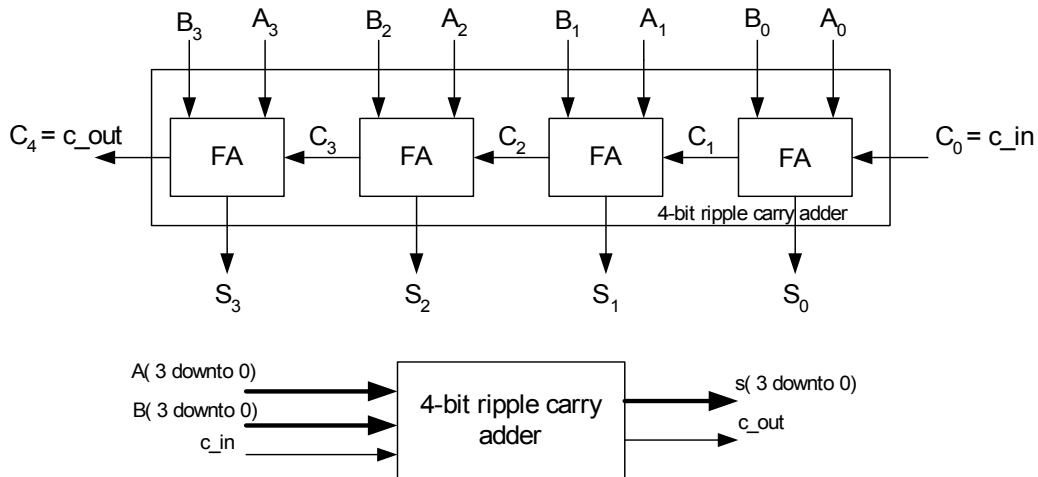
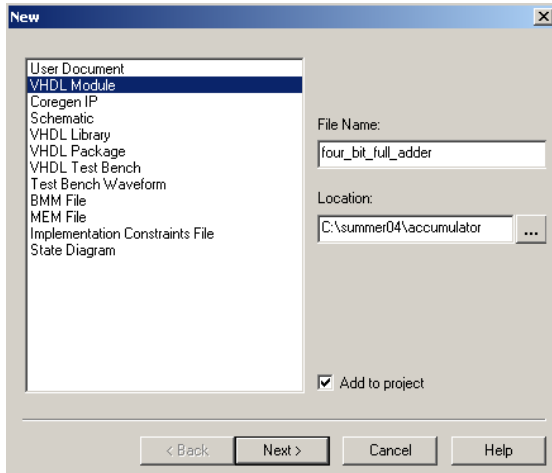
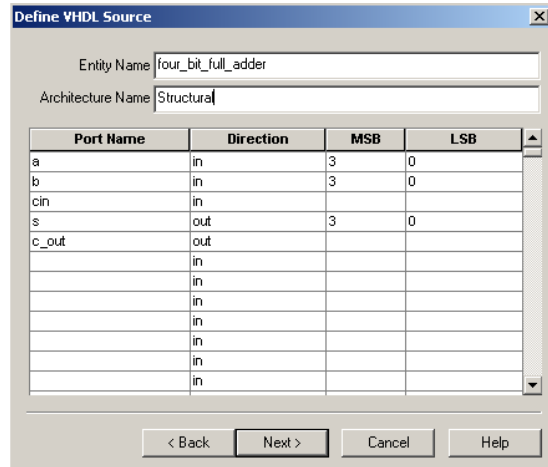

Figure 3; Block diagram of a 4-bit wide ripple carry adder.
Figure 13
Figure 14
adders. There are several ways to do so. In this lab we will follow a “ripple carry adder” approach. A full 4-bit adder schema is shown in figure 3.
- Creating a new source file; Go to **Project** → **New Source**, select **VHDL Module** and enter the name “`four_bit_full_adder`” as shown in figure 13. You will get a window as shown in figure 14, to define the VHDL source; fill out the architecture name as `structural` and declare the inputs and outputs of the full adder circuit following the logic diagram in figure 3. Click **Next** → **Finish**. The result will be a new source file where the skeleton is ready for you to fill it with the description of the circuit.
- Declaring components; Following logic diagram in figure 3, you will need only one kind of component; a 1-bit full adder. Remember that a component declaration goes between “`architecture structural of four_bit_full_adder is`” line and the “`begin`” line.
- Connecting components; Component instantiation (section where you describe the connections between components) goes between the lines “`begin`” and “`end structural`” in the VHDL description of the system. Follow the logic diagram in figure 3 to describe the connections between the components and inputs/outputs of the 4-bit full adder.